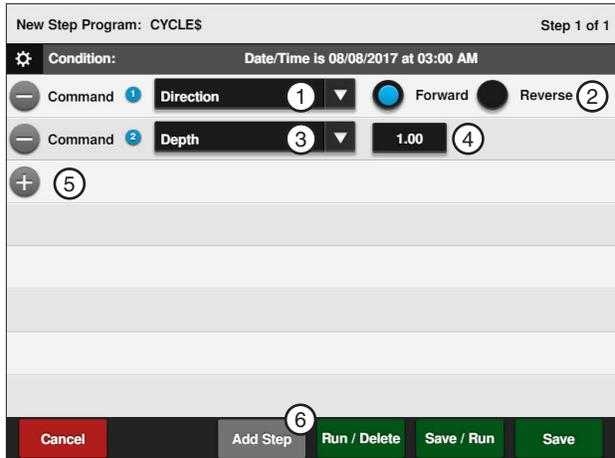

Figure 136-1 1. Direction Command 4. Inches
4. Enter the commands to be executed. Refer to Figure 136-1.